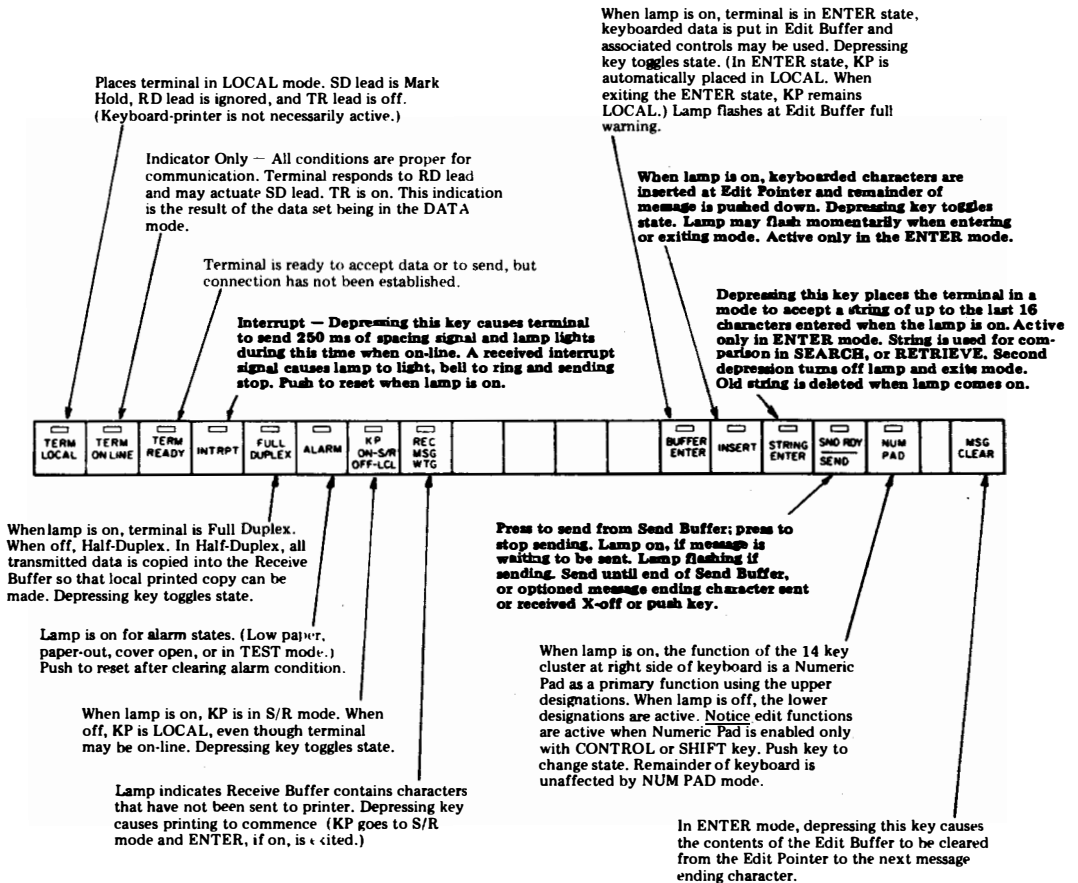

Fig. 5—Operational Controls and Status Indicators
4.02 The operational controls and status indicators for the teleprinter are briefly described in Fig. 5.